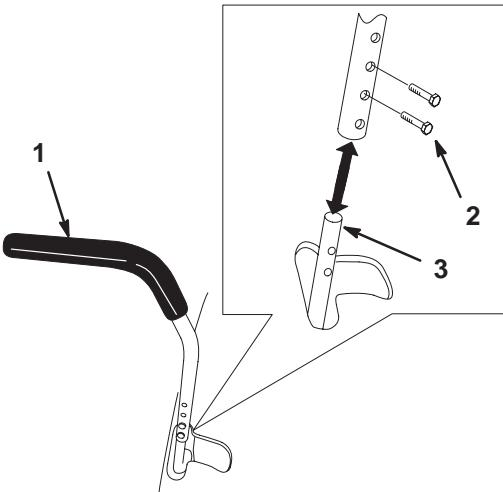

Figure 13
1. Remove the 2 bolts holding the control lever to the control arm shaft (Fig. 13).
2. Move the control lever to the next set of holes. Secure the lever with the 2 bolts (Fig. 13).